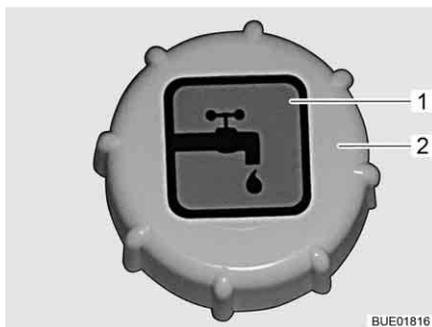

Fig. 226 Cap for the drinking water filler neck
The drinking water filler neck is indicated by the symbol "☰" (Fig. 226,1).
- Turn the cap (Fig. 226,2) anticlockwise and remove.